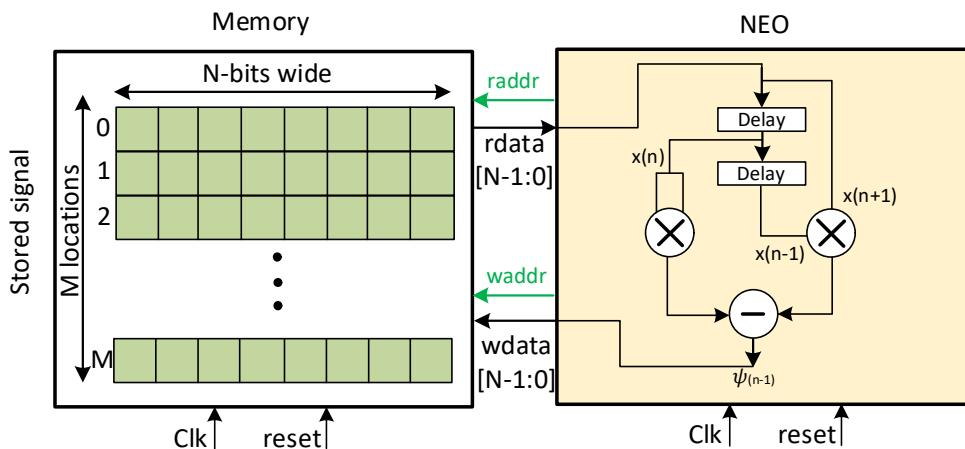

Figure 1. Interfacing the memory to the NEO unit.
A signal energy operator is a computational block that calculates the energy of a signal stored in memory shown in Figure 1. Here are the main steps in Figure 1:
Testing NEO with varying amplitude and frequency: generate a sine wave in MATLAB with $A = 1.0$ and $f = 100$ Hz, then change the values to $A = 2.0$ and $f = 500$ Hz and finally to $A = 3.0$ and $f = 1000$ Hz. **Hint: the length of the generated signal should be equal with the number of locations (M) shown in Figure 1. Please also use the following sequence:**